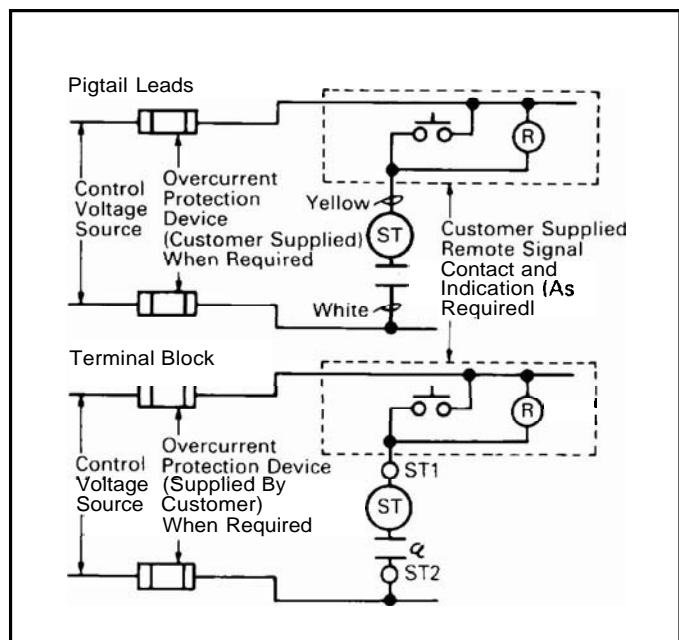

Fig. 2-6 Shunt Trip Connection Diagram
2.12. Connect shunt trip as required (see Fig. 2-6).